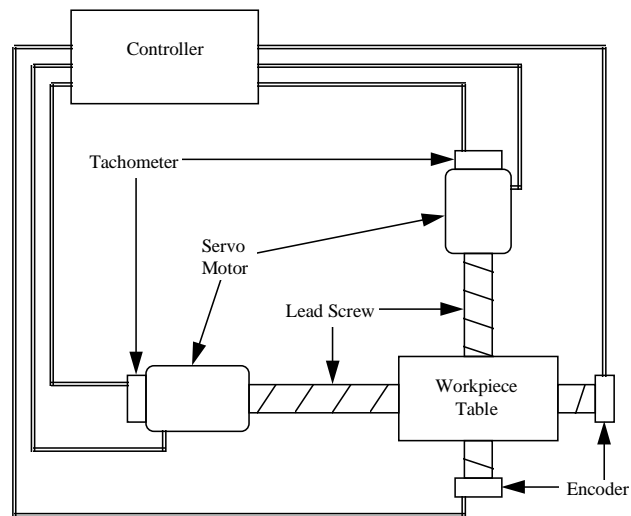

Figure 1 Layout of Two-Axis Positioning System for Milling Machines
- A PC-based open architecture CNC controller was designed and implemented for a multi-axis milling machine (Figures 1 and 2).